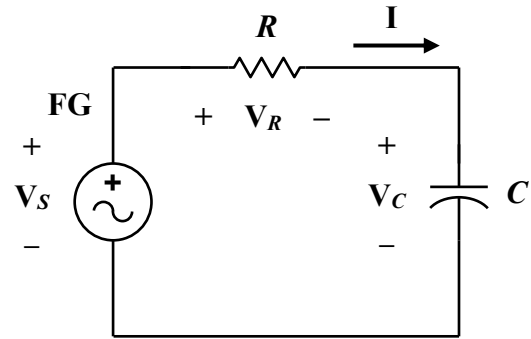

Figure 10.6
For the RC circuit (**Figure 10.6**), assume:
11. Consider – but do not construct – the RC circuit in **Figure 10.6** using $R = 2.0$ k Ω and $C = 0.1$ μ F, and $f = 600$ Hz. From the **measured values** of the resistance and capacitance, calculate the **rectangular and polar forms** of the total impedance of the circuit, $Z_{total} = Z_R + Z_C$. Record in **Table 10-3**.
15. With the Function General (FG) **not connected** to the circuit, construct the RC circuit shown in **Figure 10.6** using $R = 2.0 \text{ k}\Omega$ and $C = 0.1 \text{ }\mu\text{F}$.
21. Reconfigure the circuit (**Figure 10.6**) and repeat **Steps 11–20** for a $10.0 V_{p-p}$, 1000 Hz sinusoid. Use **Tables 10-6** through **10-8** to record the data.